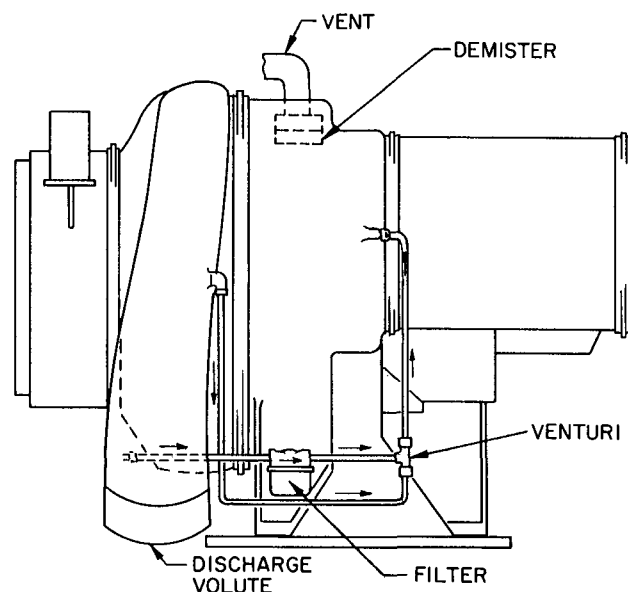

Fig. 2-3 - Inlet Volute Drain System
**Inlet Volute Drain System** - This system (Fig. 2-3) is provided to drain any refrigerant which may condense and accumulate in the cavity next to the discharge volute. Rather than return this refrigerant directly to the cooler (because of possible oil accumulation), it is directed thru a filter to the compressor base. Any oil which may have accumulated is retained in the compressor base while the refrigerant passes thru the vent line and demister to the compressor suction. Discharge pressure is used as a means of transfer.